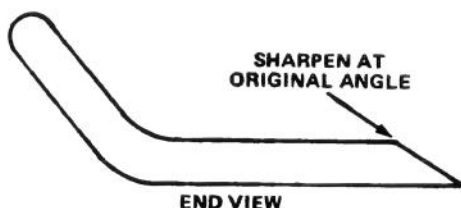

Figure 31
3. Examine cutting edges of all blades. Sharpen the cutting edges if they are dull or nicked. Sharpen only the top side of the cutting edge and maintain the original cutting angle to assure sharpness (Fig. 31). The blade will remain balanced if same amount of metal is removed from both cutting edges.